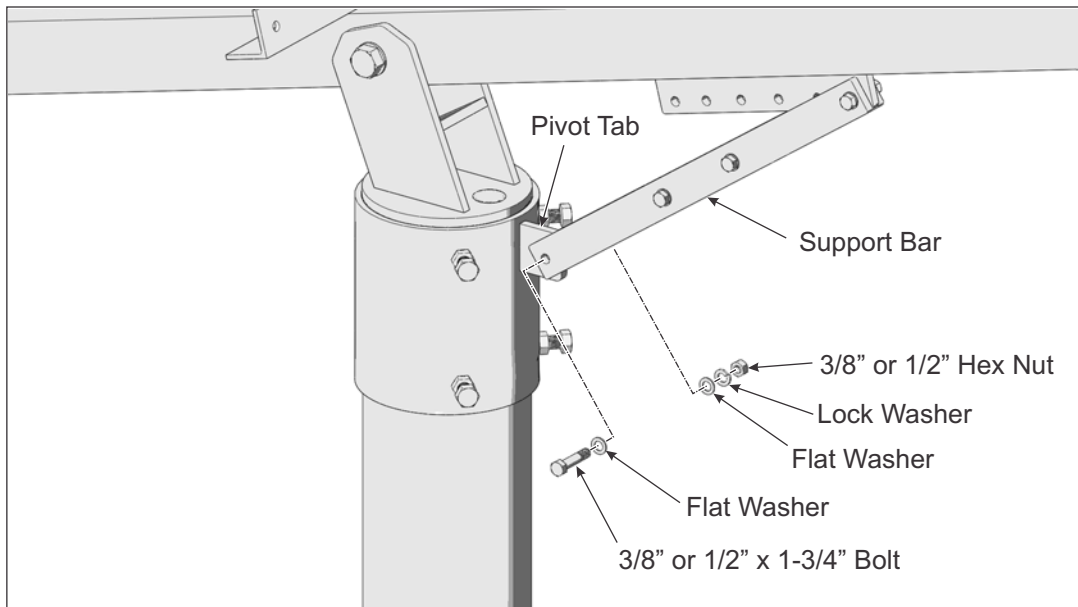

Figure 2-3: Securing Support Bar to Mounting Sleeve
- F. Pivot the Strongback and the Support Bar to align the mounting holes of the Support Bar with its Pivot Tab on the Mounting Sleeve. Slide the Support Bar over the Pivot Tab. Insert the 3/8" or 1/2" x 1-3/4" bolt and one flat washer through the Support Bar and Mounting Tab and secure it with the remaining flat washer, lock washer and hex nut. **Torque hardware on both ends of Support Bar at 32-34 ft.-lbs. for 3/8" hardware or 72-80 ft.-lbs. for 1/2" hardware.** (See Figure 2-3)